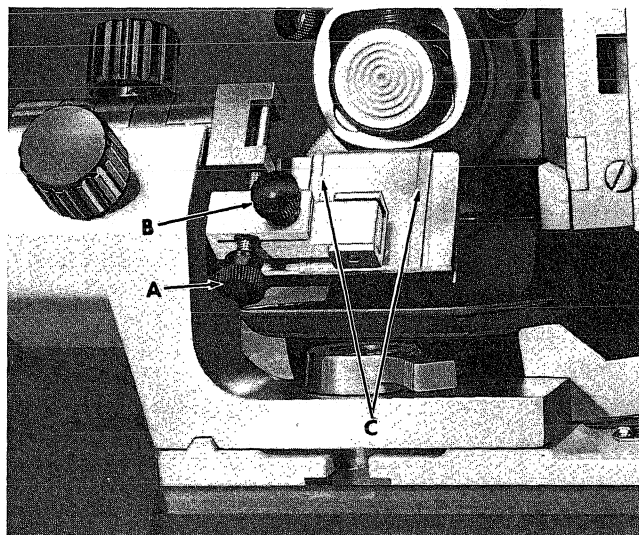

Figure 12
Knob A, shown in Figure 12, provides a micrometer screw adjustment of the plate. Knob B locks this movement after correct adjustment has been achieved. The edge of the plate is adjusted to almost coincide with the knife edge and parallel with it. It should not protrude beyond the knife edge, since it must allow the knife edge to cut and immediately guide the cut section under the plate and along the knife face plate. Correct separation between the edge of the guide plate and the knife face is provided by two raised lands, C, Figure 12, 0.0635 mm high. If at any time these lands are damaged in cutting, a new plate should be installed. This is easily accomplished by removing the two screws that retain the plate. After discarding the damaged plate, install the new plate making sure that the leading edge of the plate is coincidental with the cutting edge of the knife.
5. Lock anti-roll guide in upper position, Figure 12, or remove from holder.